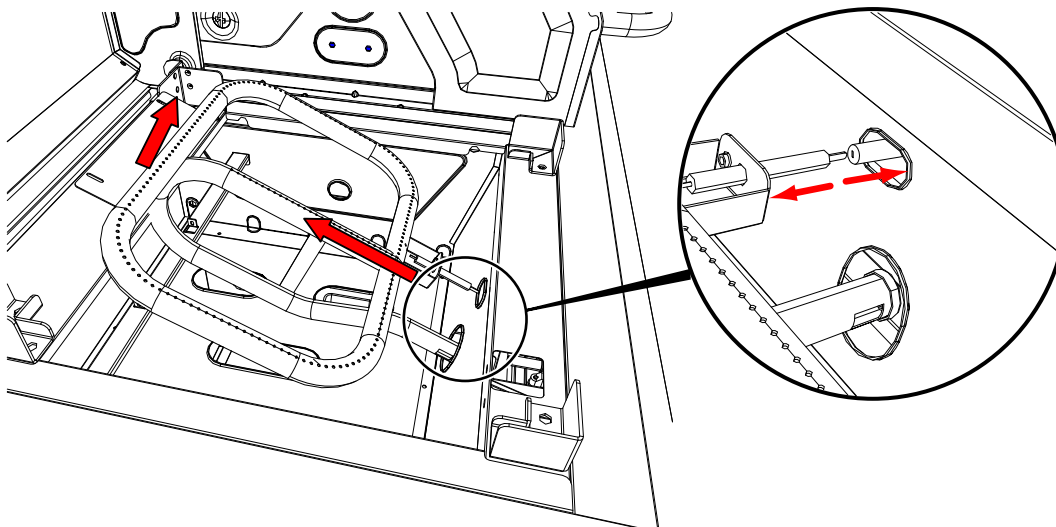

Figure 3
4. Slide the burner out of the griddle firebox as shown in as shown in Figure 3.
5. Detach ignition wire from electrode (Figure 3).